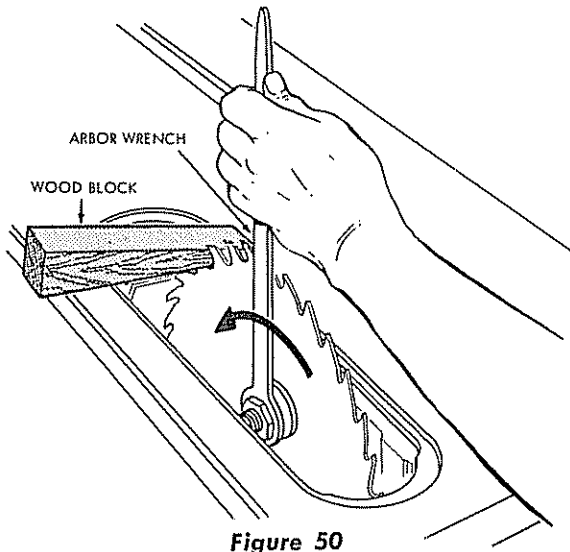

Figure 50
- b. Slide a wedge shaped block of wood under a saw tooth to wedge the blade and prevent rotation. (See figure 50.)